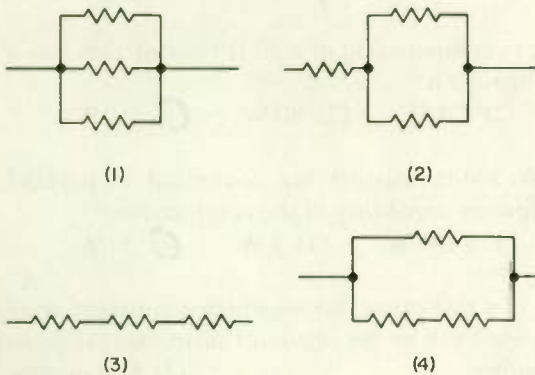

Fig. 38
- ✓ 1. In which network of Fig. 38 is the total resistance equal to two-thirds the resistance of one unit? Each resistance has the same value. **4**
- ✓ 2. In which network of Fig. 38 is the total resistance equal to 3 times the resistance of one unit? **3**
- ✓ 3. In which network of Fig. 38 is the total resistance equal to $1\frac{1}{2}$ times the resistance of one unit? HINT: Assume each resistance to be $10\ \Omega$ (or some other convenient value), and work out total resistance for each of the networks. **2**
- ✓ 4. In which network in Fig. 38 is the total resistance equal to one-third the resistance of one unit? **1**